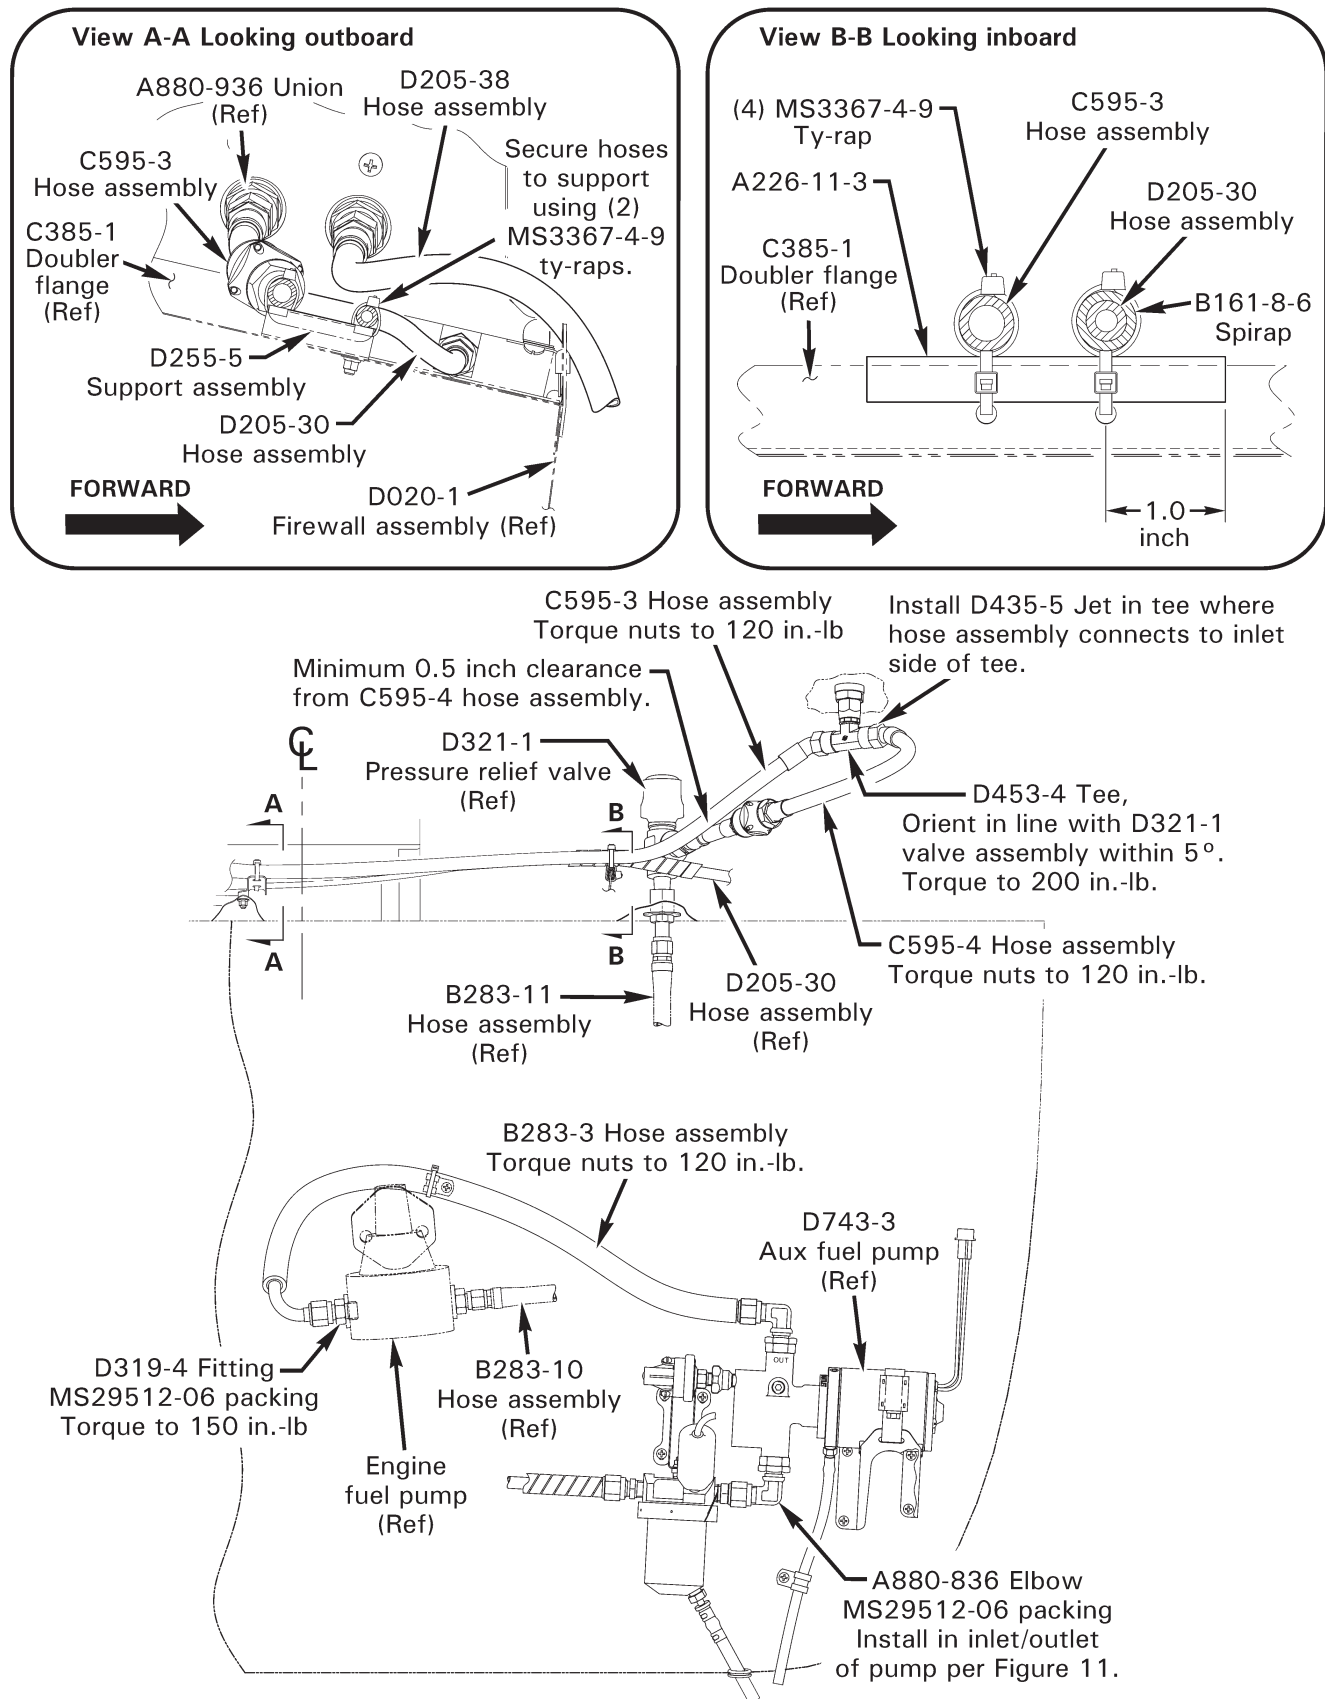

FIGURE 4 R44 II Installation
12. II. R44 II only: Refer to Figure 4.